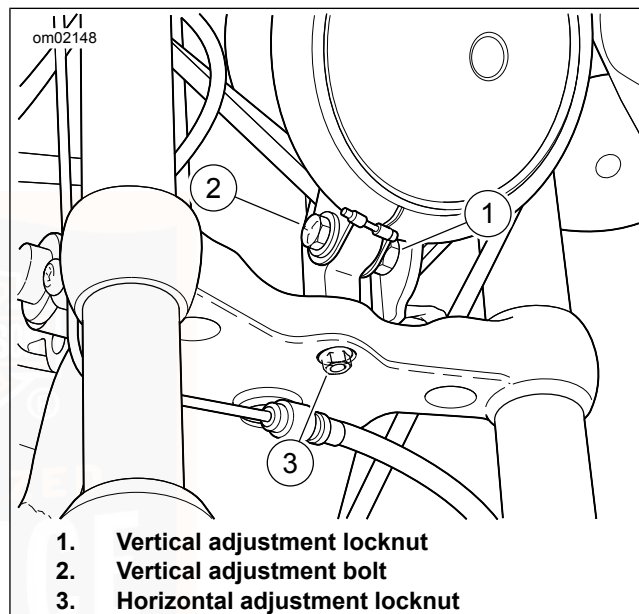

Figure 54. Headlamp Adjustment
3. See Figure 54. Loosen horizontal adjustment locknut (1).
1. See Figure 54. Loosen locknut (1) for vertical adjustment bolt (2)